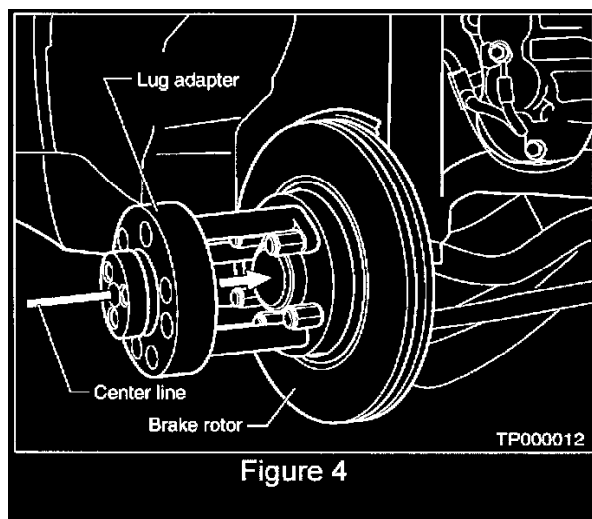

Figure 4
6. Install the lug adapter on the brake rotor (see Figure 4). Tighten all lug nuts to 40 ft/lb.
Make sure the lug adapter is centered on the brake rotor (see Figure 4).